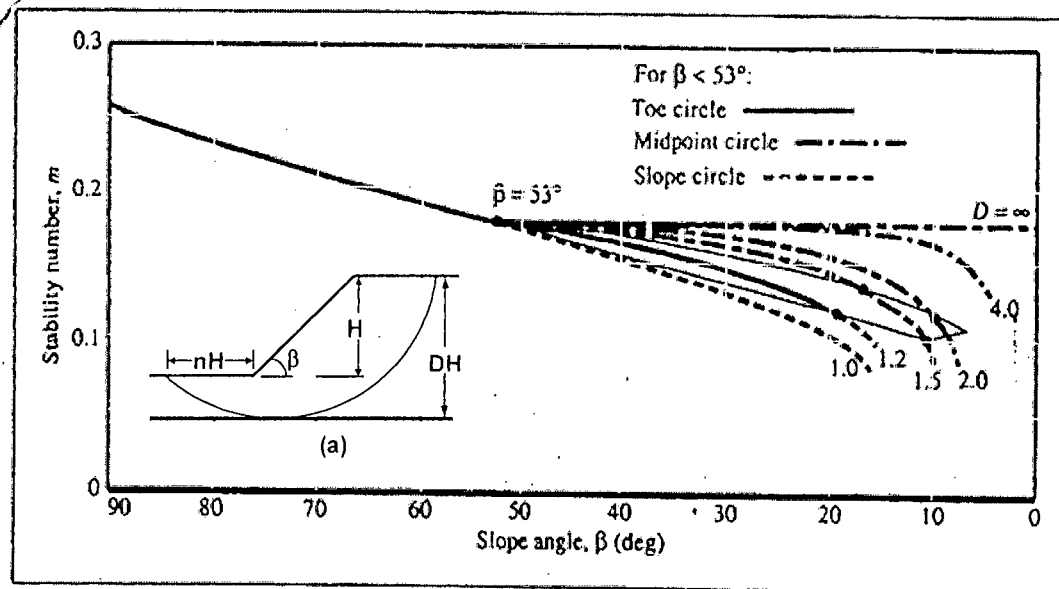

Fig.9 Chart for stability number against slope angles for different values of depth factor D for slope stability analysis using Fellenious method.
(d) A cut slope is to be made in a saturated clay. Given: $c_u = 500$ psf ($\phi = 0$ condition) and $\gamma = 110$ pcf. The slope makes an angle of 56° with the horizontal. Determine the maximum depth up to which the cut could be made. Assume that the critical surface of sliding is circular. What is the nature of the critical circle. (i.e. toe, slope or midpoint)? If we need a factor of safety of 2, how deep should the cut be made? (relevant charts are provided in Fig. 9) (15)